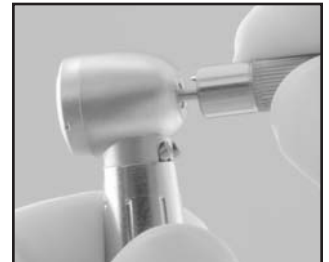

Figure 7
1. Unscrew the diffuser using the wrench (Item # 10109) by aligning the posts on the wrench with the holes on the diffuser. **Figure 7**.